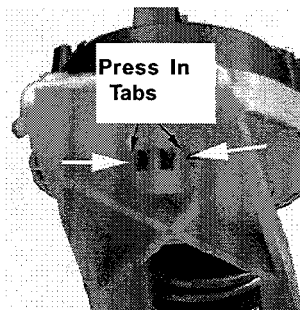

Figure 6
- The water level pressure switch was relocated from the console to the top of the drain pump, thus eliminating the airdome hose. **Figure 6**
4. Remove the plastic bag covering the pressure switch. Press in the locking tabs on the back of the pressure switch and remove the pressure switch off the pump bracket. **Figure 6**